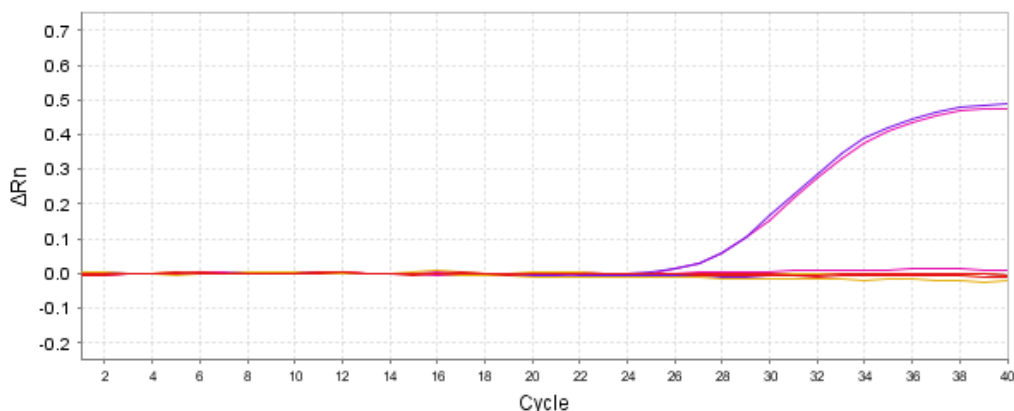

Figure 15 Example Amplification Plot for negative control and blocked IPC
- View the amplification plots for the negative controls (see Figure 15 and “Optimize display of negative controls in the Amplification Plot” on page 36).